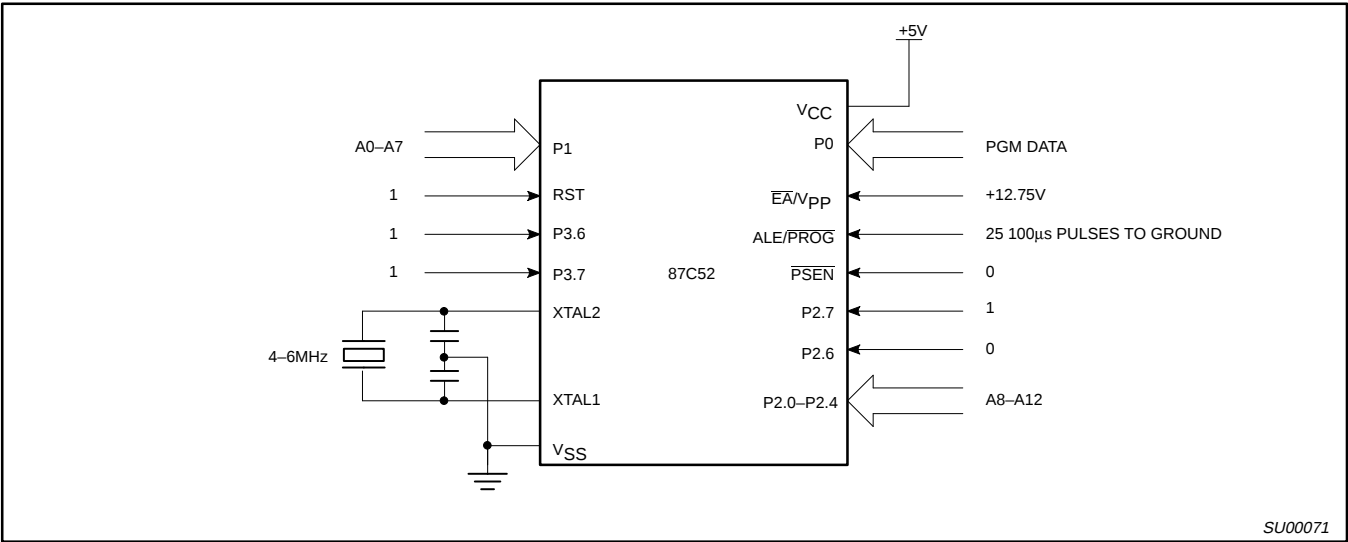
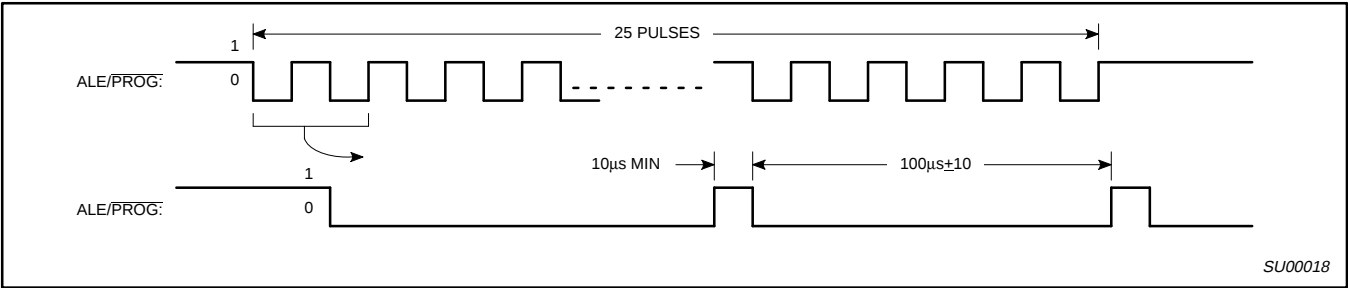
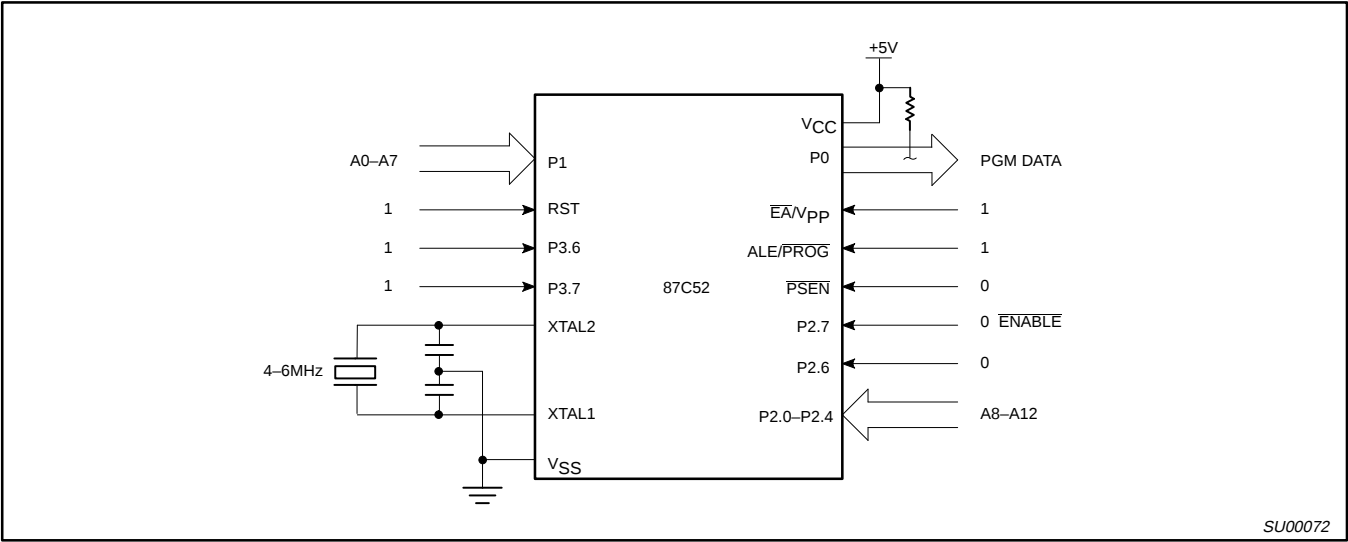

Figure 17. Programming Configuration
Figure 18. PROG Waveform
Figure 19. Program Verification
Table 6 shows the logic levels for reading the signature byte, and for programming the program memory, the encryption table, and the security bits. The circuit configuration and waveforms for quick-pulse programming are shown in Figures 17 and 18. Figure 19 shows the circuit configuration for normal program memory verification.
The setup for microcontroller quick-pulse programming is shown in Figure 17. Note that the 87C52 is running with a 4 to 6MHz oscillator. The reason the oscillator needs to be running is that the device is executing internal address and program data transfers.
The address of the EPROM location to be programmed is applied to ports 1 and 2, as shown in Figure 17. The code byte to be programmed into that location is applied to port 0. RST, $\overline{PSEN}$ and pins of ports 2 and 3 specified in Table 6 are held at the 'Program Code Data' levels indicated in Table 6. The ALE/PROG is pulsed low 25 times as shown in Figure 18.
If security bit 2 has not been programmed, the on-chip program memory can be read out for program verification. The address of the program memory locations to be read is applied to ports 1 and 2 as shown in Figure 19. The other pins are held at the 'Verify Code Data' levels indicated in Table 6. The contents of the address location will be emitted on port 0. External pull-ups are required on port 0 for this operation.
- * FOR PROGRAMMING VERIFICATION SEE FIGURE 17.
FOR VERIFICATION CONDITIONS SEE FIGURE 19.